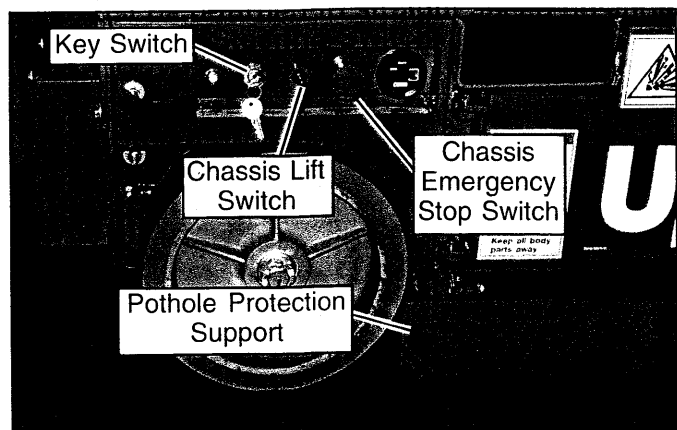

Figure 2-3: Chassis, Right Side
9. Turn Chassis and Platform Emergency Stop Switches ON (Figure 2-3 & 2-4) by pulling the button out.